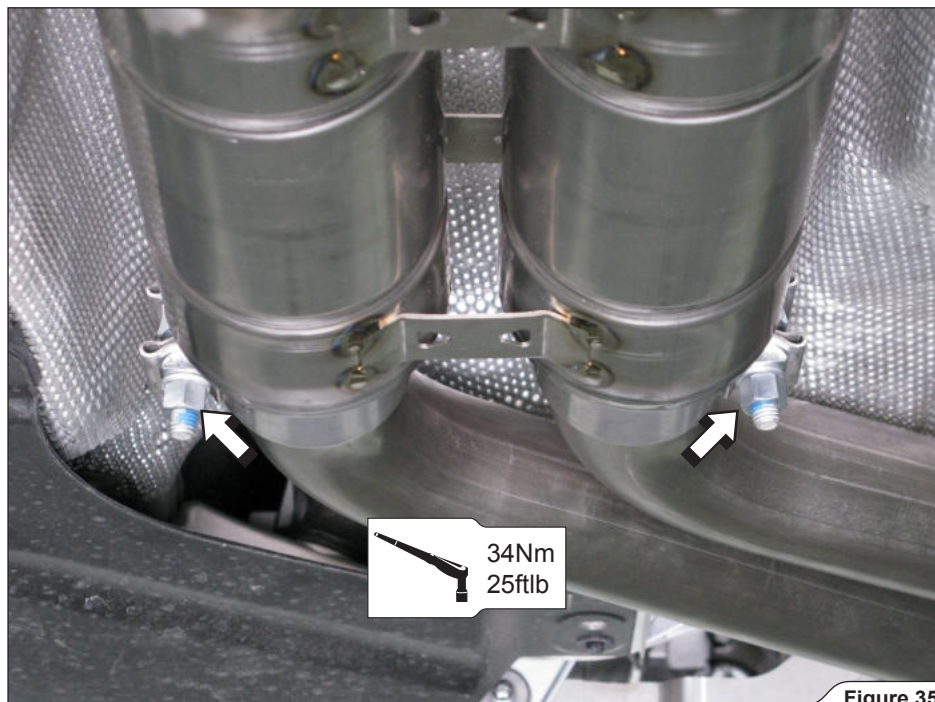

Figure 35
15. **For Evolution:** align the Collector and Evolution Link Pipes in respect to the chassis and tighten the clamps to a specified torque (**Figure 35**).